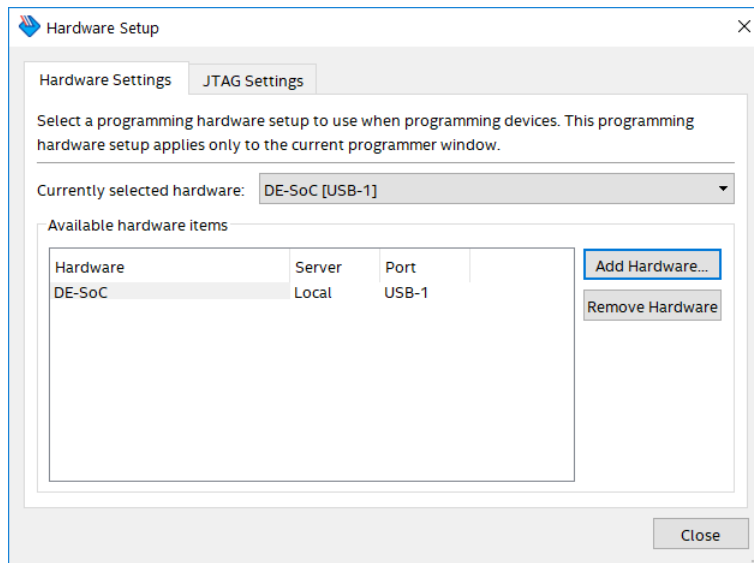

Figure 10. Setting up hardware.
- For SignalTap to work, we need to properly set up the hardware. First, make sure the DE-series board is plugged in and turned on. In the Hardware section of the SignalTap window, located in the top right corner, click **Setup...**, bringing up the window in Figure 10. Double click DE-SoC in the Available Hardware Items menu, then click **Close**. If you are using a DE0-CV, DE0-Nano, DE2-115, or the DE10-Lite, you will select USB-Blaster from the Available Hardware Items menu.